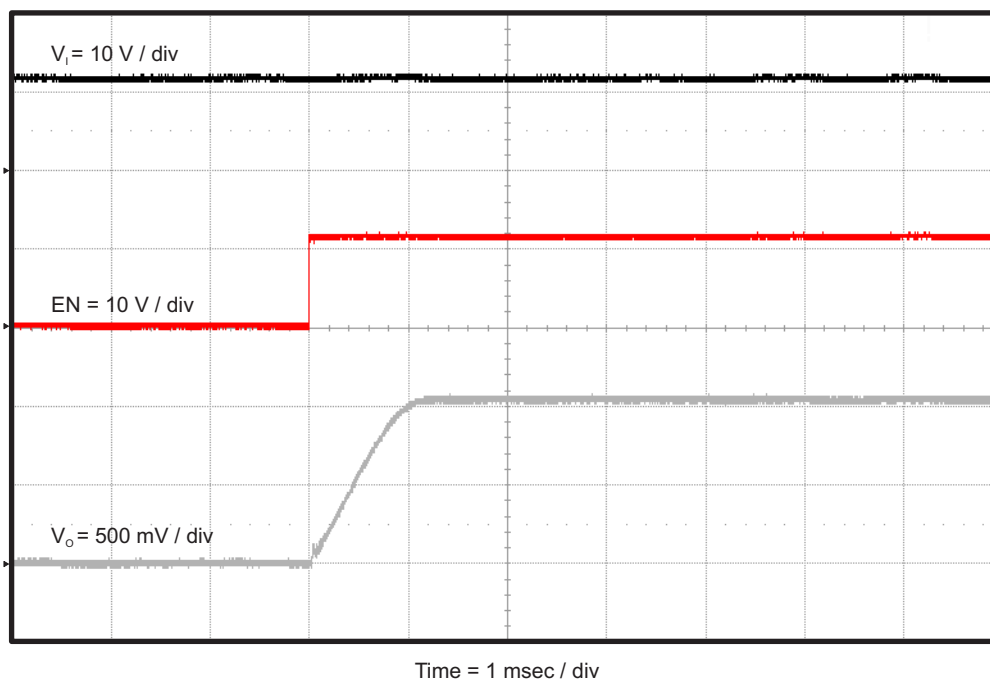

Figure 12. TPS563200EVM-652 Start-Up Relative to EN
The TPS563200EVM-652 start-up waveform relative to enable (EN) is shown in Figure 12. Load = 1 Ω resistive.